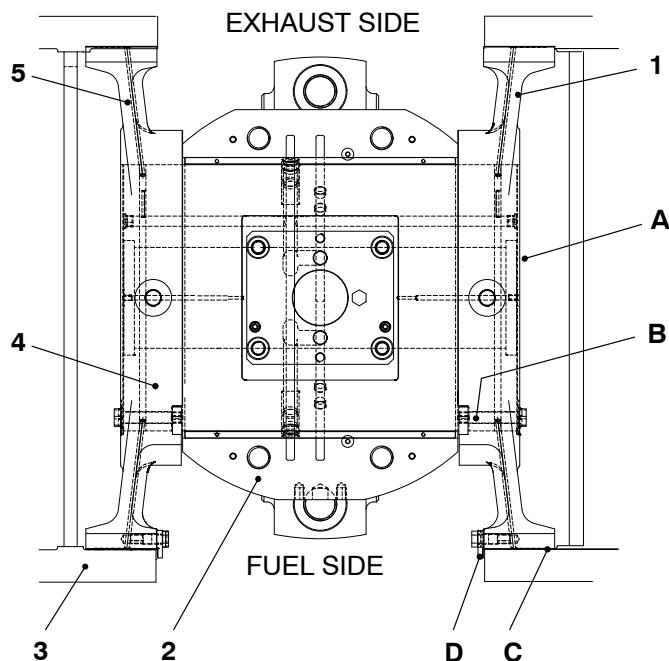
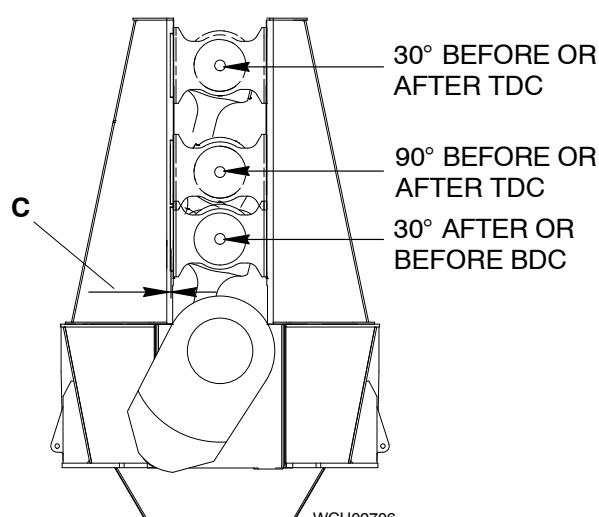

Fig. 1
Fig. 2
- 1) Measure and record the clearances shown in Fig. 1 and Fig. 2.
- 1) Make sure that the related crosshead pin (4) is in a position so that the guide shoes (1) and (5) touch the guide ways (3) (on the fuel side or exhaust side).
- 2) Measure the clearance (C) between the guide shoe (1) and the guide way (3).
Note: The clearance (C) is applicable for the full length of the guide way (3) and measured at the position shown in Fig. 2.